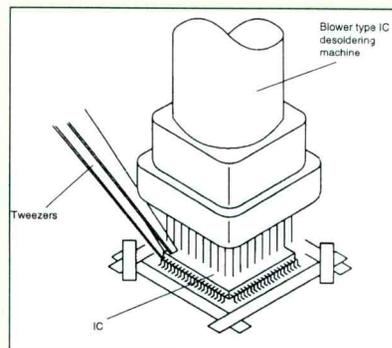

Figure 3.
3. When the IC starts moving back and forth easily after desoldering completely, pick up the corner of the IC using a tweezers and remove the IC by moving with the IC desoldering machine (Figure 3). Note: Some ICs on the PCB are affixed with glue that was used to hold them in place during mass soldering, so be careful not to break or damage the foil of any of the IC leads or solder lands under the IC when removing it.